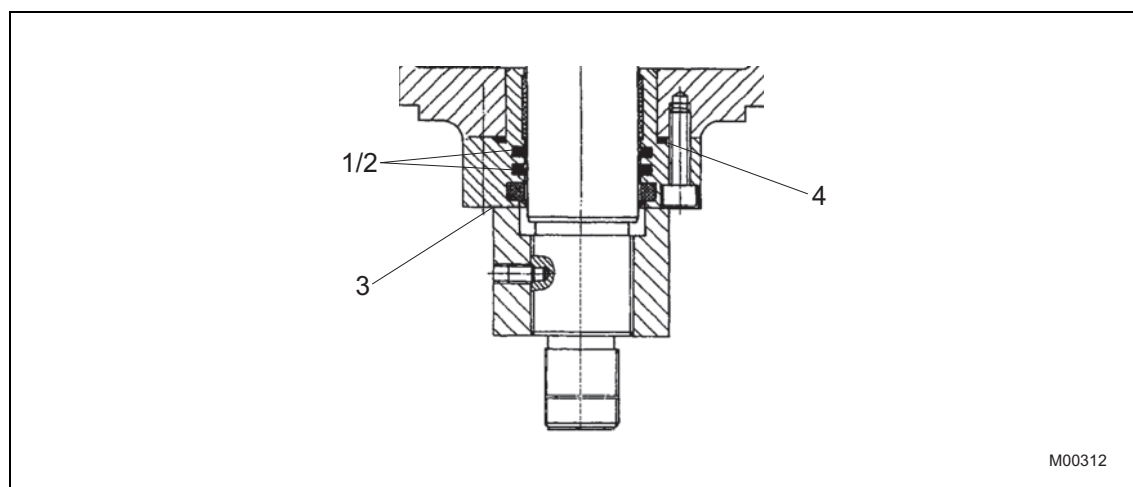

Fig. 12: Illustration of the thrust rod gaskets; item 4 not for RSDE10 / RSDE20
- Interpolate the replacement intervals for the thrust rod sealing ring (see Fig. 12/1), the associated O-ring (see Fig. 12/2), the scraper ring (see Fig. 12/3) and the (flange) O-ring (see Fig. 12/4).